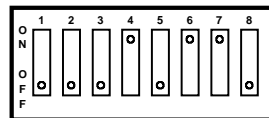

Figure 3. Receiver #1 Coding
**Receiver #1:** Switch 1 OFF, switch 2 OFF (see Figure 3)